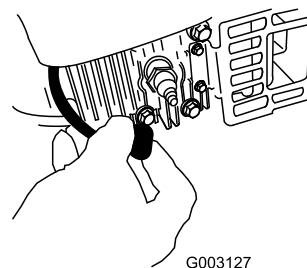

Figure 32
2. Disconnect the spark plug wire from the spark plug (Figure 32) before performing any maintenance procedure.